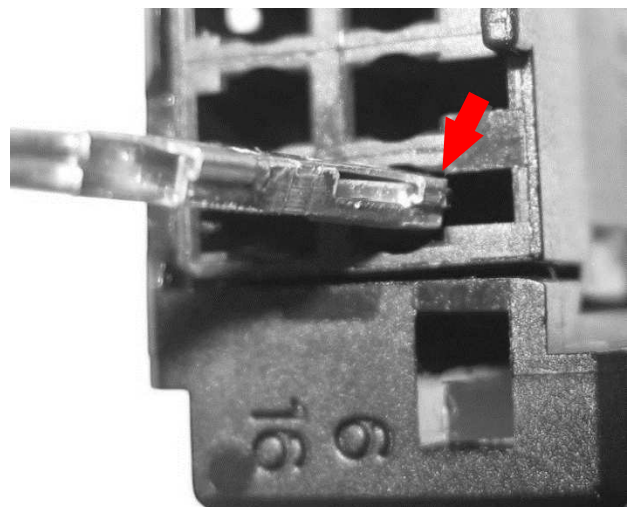

Figure 4. Terminal Insertion
2. The terminated contact must be aligned with the contact cavity at the wire end of the connector and oriented as shown (see Figure 4). Terminals will only easily go into cavity in one orientation.